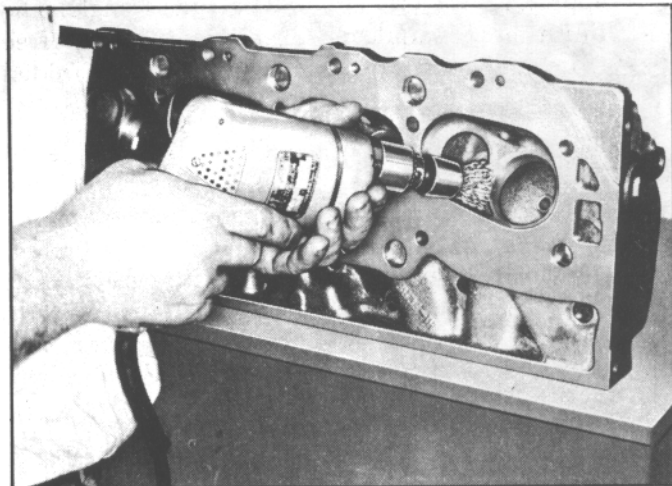

Fig. 97. Cleaning Combustion Chambers
1. Clean all carbon from combustion chambers and valve ports using tool J-8089 (Fig. 97).